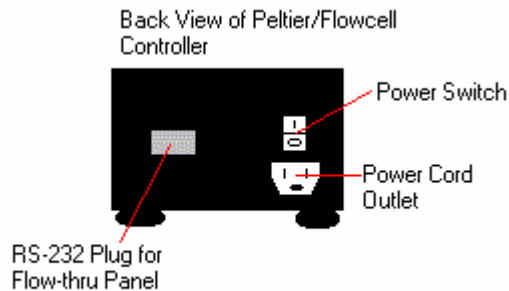

Figure -21 Back View of Peltier/Flowcell Controller
- Step 12 Connect the 9-PIN Cable from the Flow-Thru Panel to the back of the Peltier/Flowcell Controller (Figure-21).